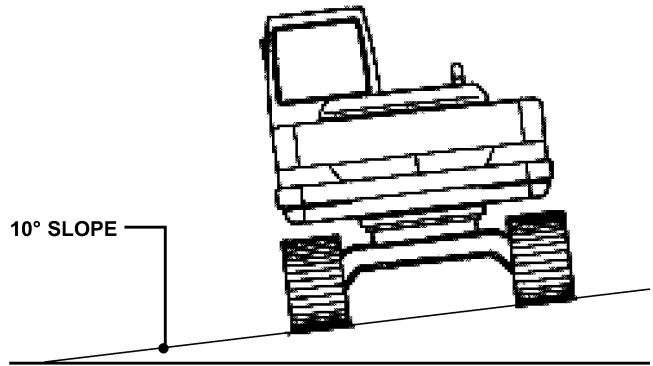

FIGURE 4.8
1. Move the machine to a firm testing area with 10° slope as shown in Figure 4.8.